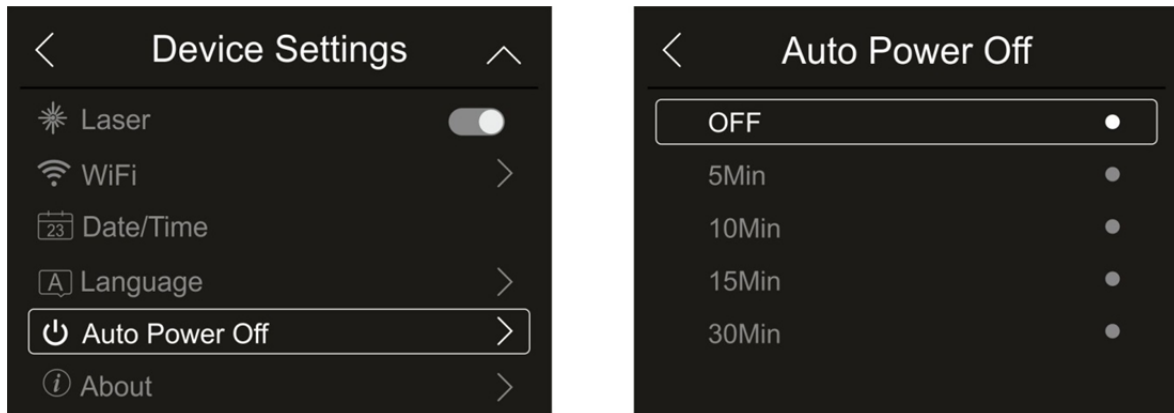

Fig. 20: Auto power off setting
1. Touch item “Auto Power Off” to set the instrument's auto power off time. The screen in Fig. 20 – right side appears on the display: